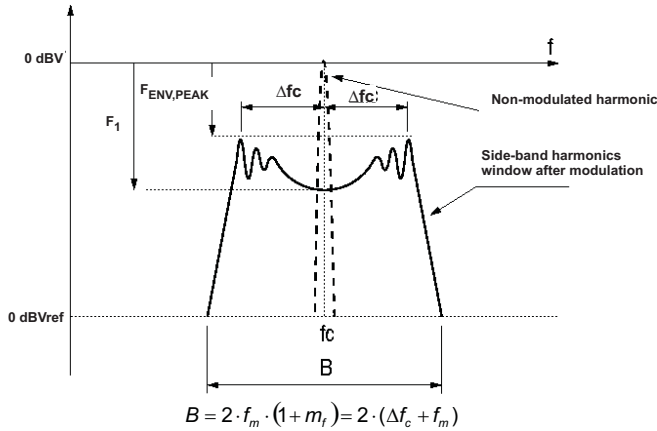
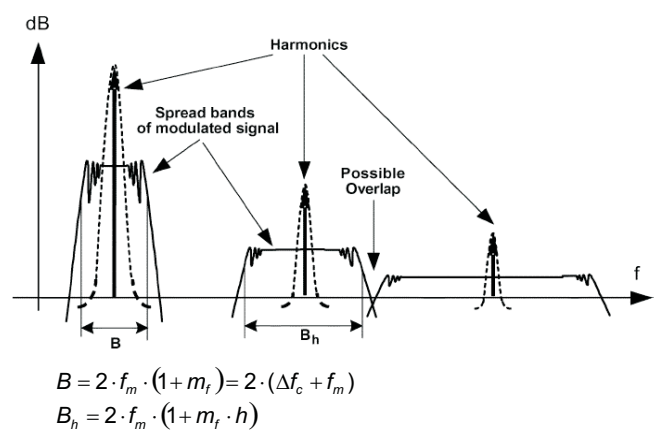

Figure 39. Spectrum of a Frequency Modulated Sin. Wave with Sinusoidal Variation in Time
Figure 40. Spread Bands of Harmonics in Modulated Square Signals ⁽¹⁾
(1) Spectrum illustrations and formulae (Figure 39 and Figure 40) copyright IEEE TRANSACTIONS ON ELECTROMAGNETIC COMPATIBILITY, VOL. 47, NO.3, AUGUST 2005. See REFERENCES Section for full citation.